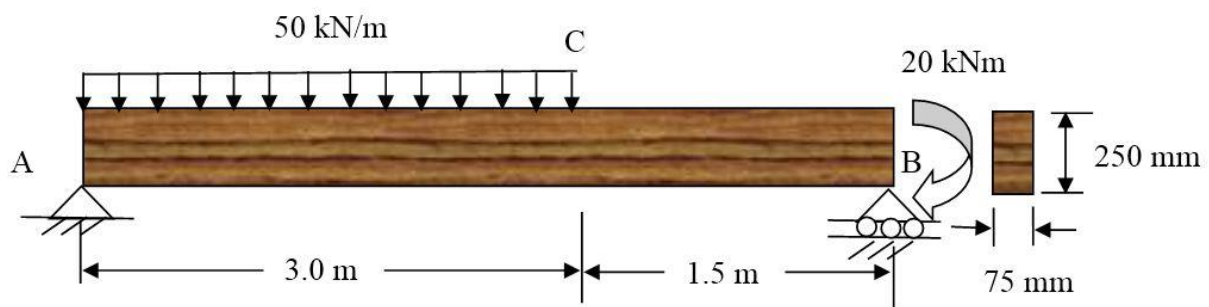

Figure 4
3. **Figure 4** shows a simply supported timber beam AB with 4.5 m long carrying the uniformly distributed load of 50 kN/m at span AC. An additional moment 20 kNm is applied at support B. The cross section of the timber beam is 75 mm x 250 mm.